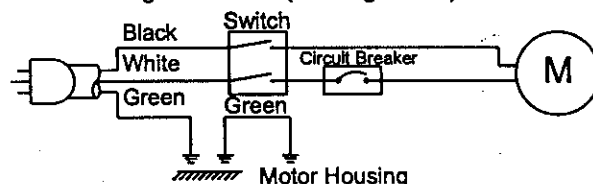

Figure 11 - Wiring Schematic
**WARNING:** Make sure unit is turned off and disconnected from power source before inspecting any wiring. The motor is installed and wiring connected as illustrated in the wiring schematic (see Figure 11).